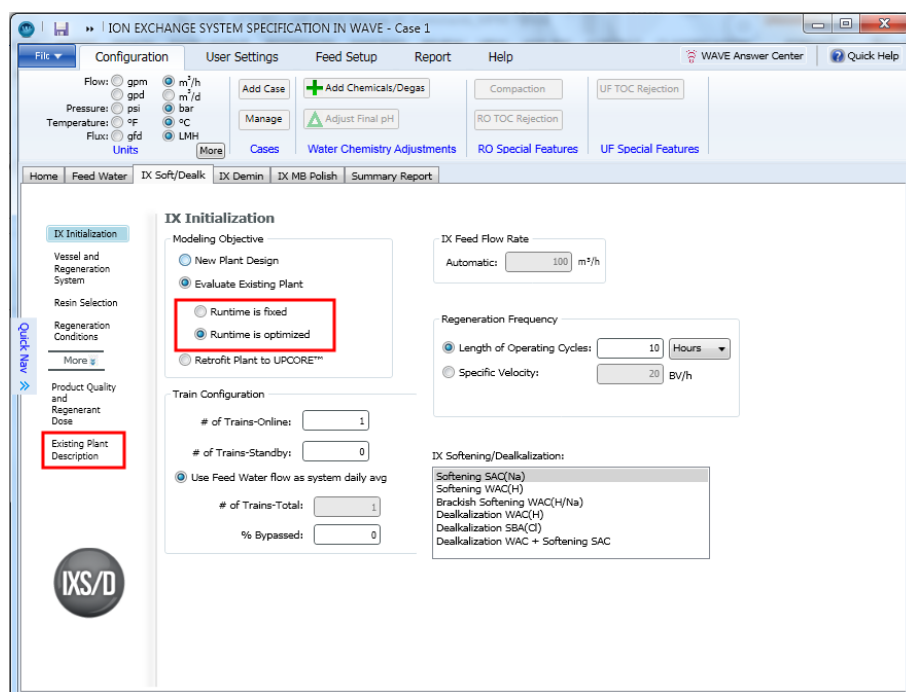

Figure 159. IX Initialization Window. The Modeling Objective: Evaluate Existing Plant
- A new window called “Existing Plant Description” will be added at the bottom of the left-hand navigation area, as shown in Figure 159.
Run Time specification: Once “Evaluate Existing Plant” option is selected, the modeling objective must be specified as follow (see Figure 159):
Note: Selecting either Evaluate Existing Plant or Retrofit Plant to UPCORE™ will add an eighth button called Existing Plant Description to the left-hand navigation area (see Figure 159). For more details about this Window see Existing Plant Description